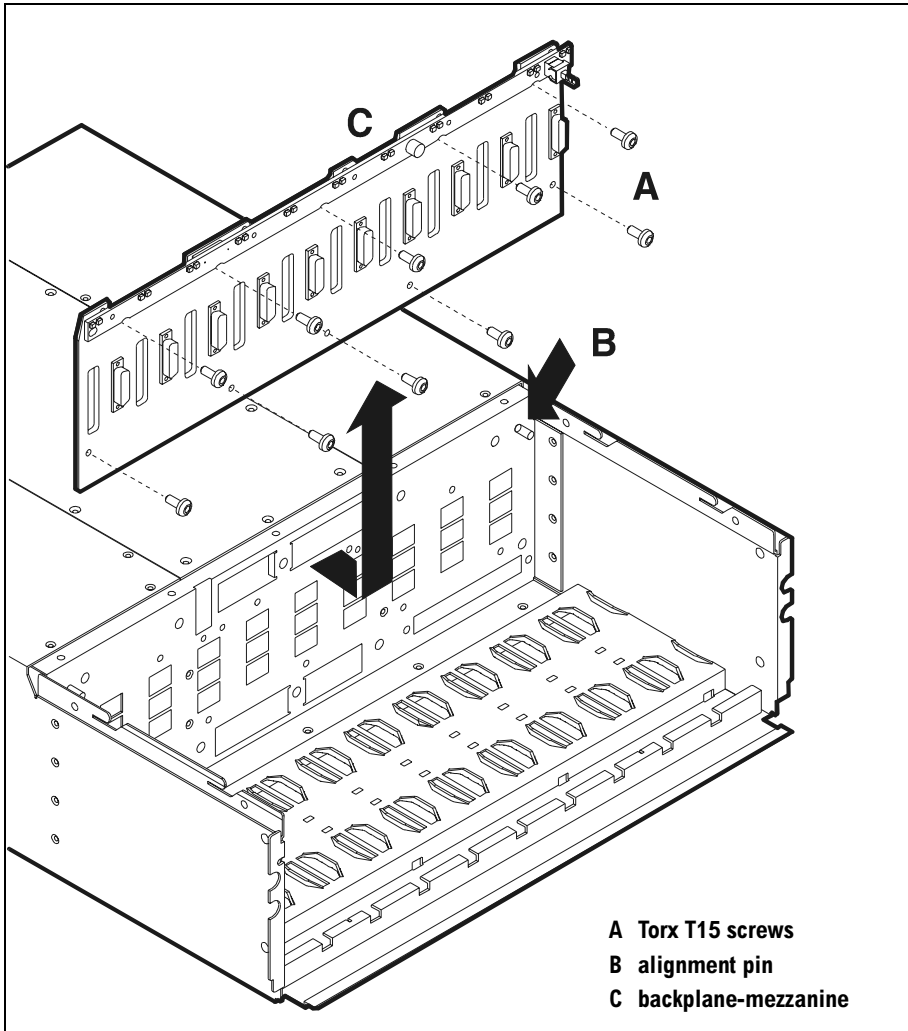

Figure 54 Backplane Assembly
- c. Remove the ten Torx T15 screws along the top and bottom edges of the backplane (see Figure 54).
- d. Pull the backplane forward to clear alignment pins (B) and lift backplane up and out of the disk system.
- a. Stand the new backplane inside the chassis and push it over the alignment pins (B in Figure 54). Connectors automatically align with floating fan connectors inside the chassis.